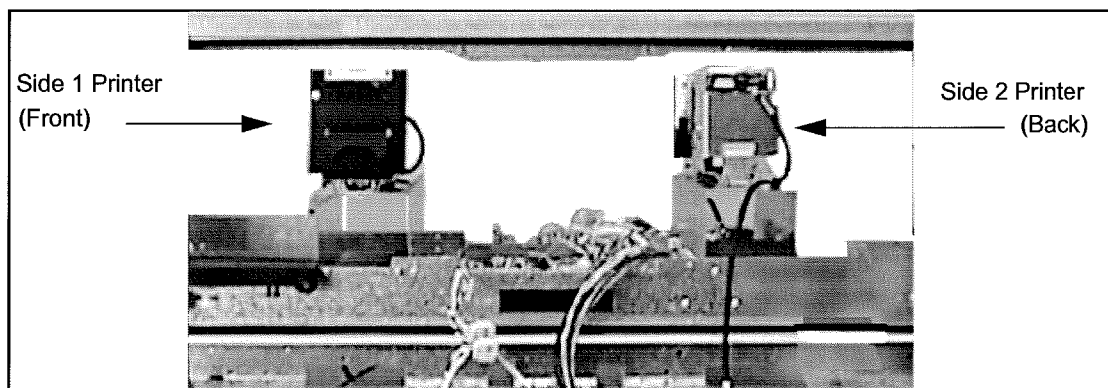

Figure 2-6 Printers in Head
6. Remove retaining screw from bottom side of printer base (marked with warning label). See Figure 2-6.